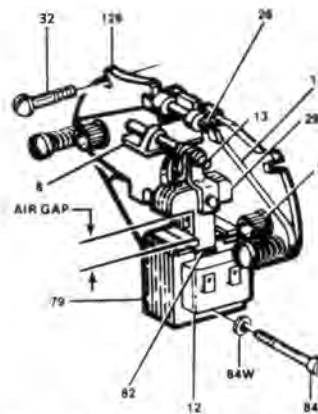

Figure 1. Motor Brake Adjustment
The motor brake should be checked periodically for wear of the friction discs and/or proper adjustment of the solenoid air gap. Refer to Figure 1. Normal lining wear will cause the solenoid lever (8) to move away from the solenoid frame (79) and thus increase the air gap and trolley stopping time.
(Refer to Figure 1 on page 17 and Exploded View Drawing on page 48).
2. Remove housing (3) from the brake and disconnect the coil wires from the cord.
3. Insert screw driver between support plate (126, Fig.1) and the top of lever arm (17, Fig.1). Wedge these apart and remove bearing pin (26, Fig.1) and solenoid lever (8, Fig.1) with link (13, Fig.1) and plunger (29, Fig.1).
4. Remove plunger guide screw (84, Fig.1) and both plunger guides (82, Fig.1). Slide old coil sideways out of the frame (79, Fig.1). If coil is difficult to move, tap lightly with a soft hammer.
5. Install new coil in the same relative position as the old coil and replace the plunge guides (82, Fig.1) and screw (84 and 84W, Fig.1).